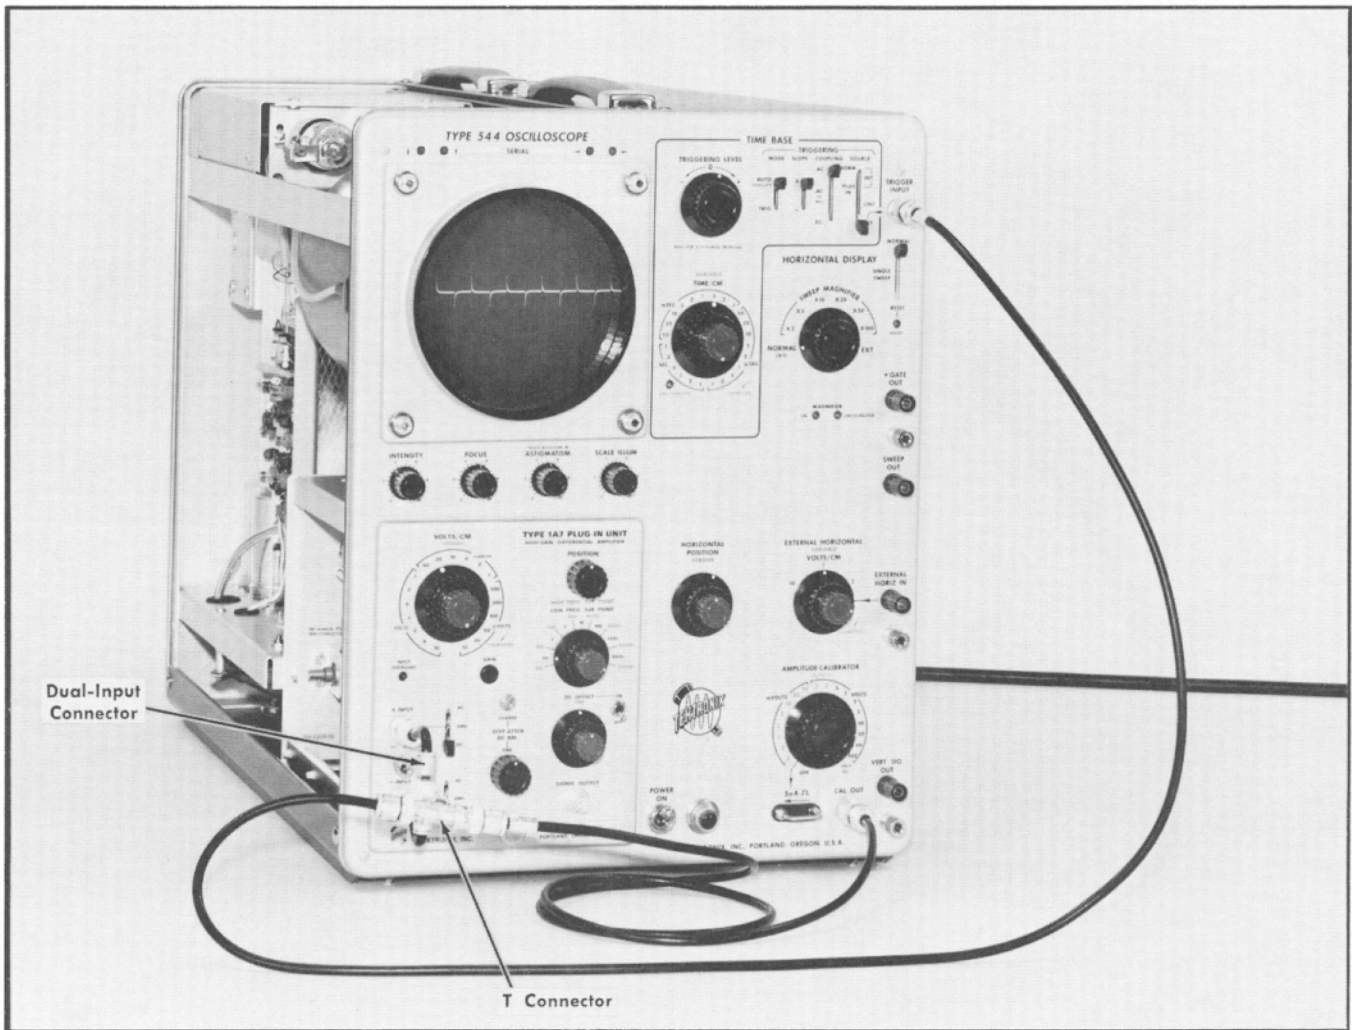

Fig. 6-32. Setup at completion of step 21d.
d. Connect a coaxial cable from the T connector to the oscilloscope Trigger Input connector. Fig. 6-32 shows the setup.
d. Connect a coaxial cable from the T connector to the oscilloscope Trigger Input connector. (The connections are the same as those shown in Fig. 6-32.)